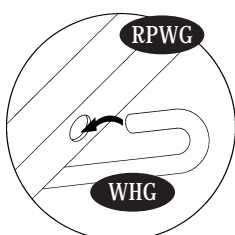

Fig.1
19. Place the Roof Panel Window (RPWG) on top of the Roof Panel (RP2BG). Fix the hinges through the roof panel to Hinges Support (HS) with (S1) screws see fig.
20. Insert the Hook (WHG) to the Roof Panel Window (RPWG) see fig. 1.